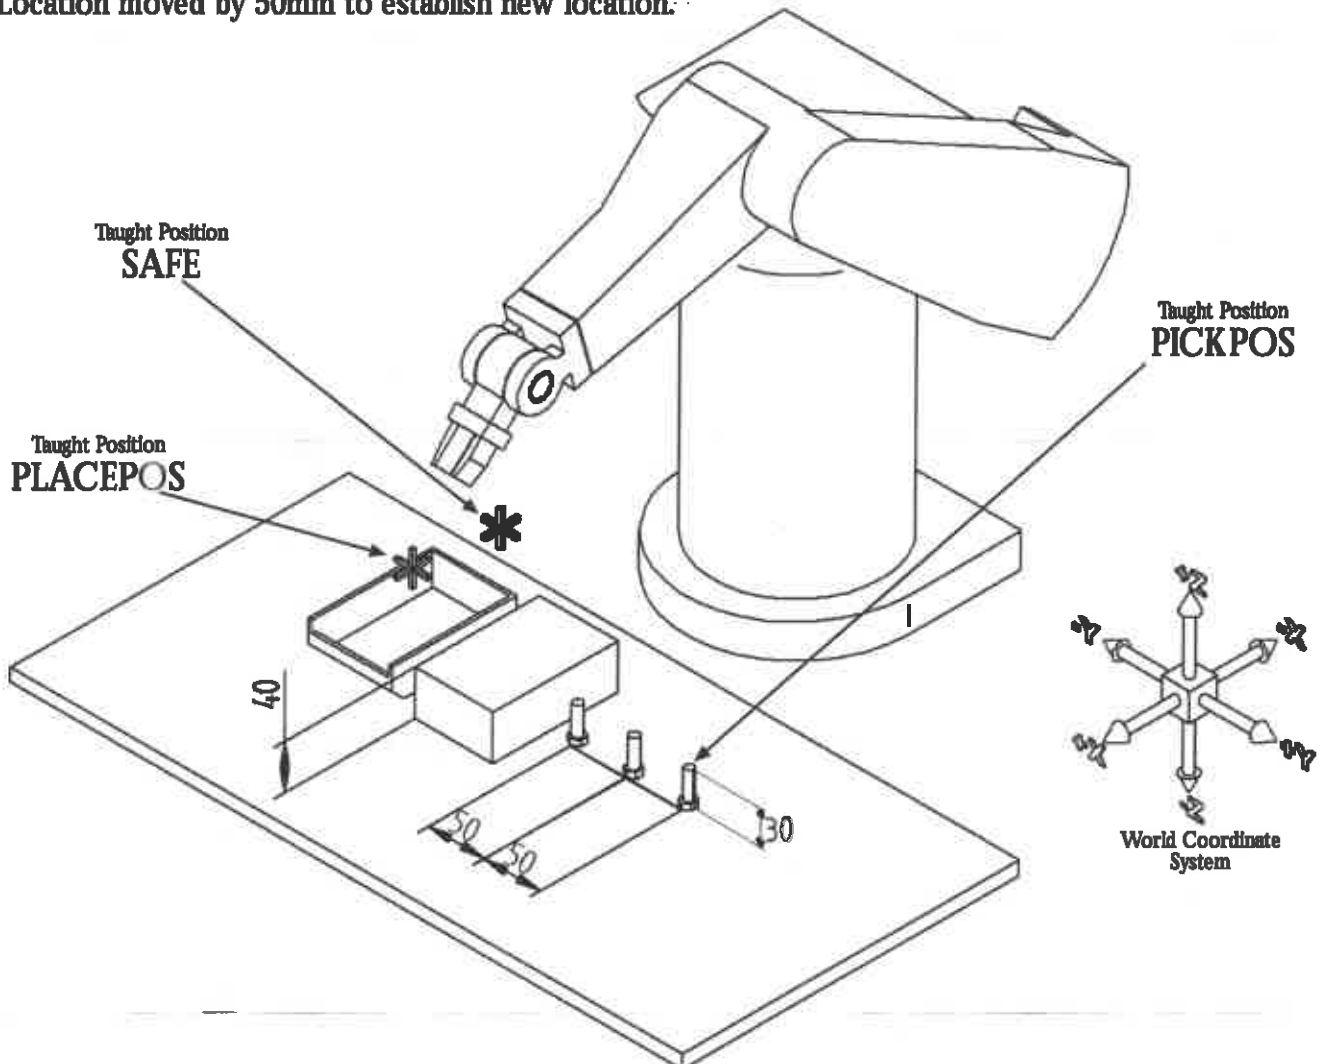

FIGURE 3
c) Write a program to move the three components that are spaced 50mm apart over the obstacle and into the box. The robot has been taught three positions. They are SAFE, PICKPOS and PLACEPOS. The program you write should make use of Task 1 and Task 2 commands. In addition, two new commands stated above in Task 3 parts a) and b) commands SET and SHIFT. The moves the robot makes should be between the components and PLACEPOS, and be via SAFE enroute which avoids the obstacle. Please see Fig.3. All the components should be placed at taught position PLACEPOS.